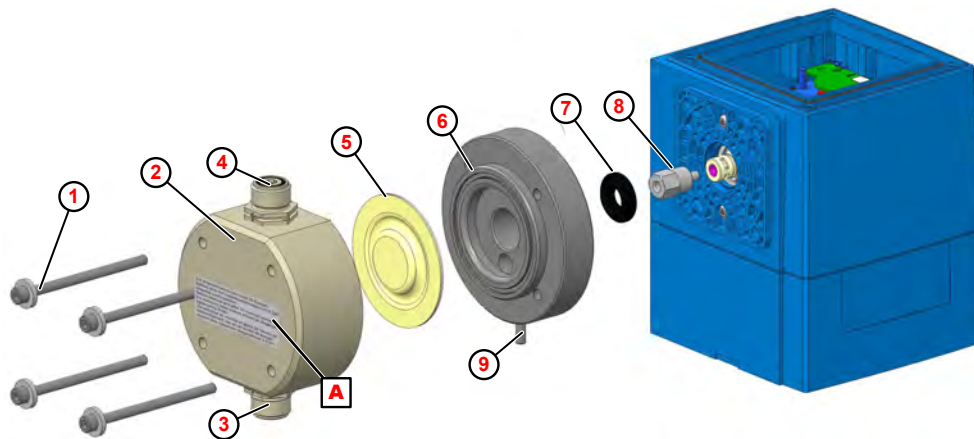

Fig. 104: Replacing the pump head, diaphragm and protective diaphragm
1. ➤ Unscrew and remove the suction and pressure valve (Fig. 104 , ③ and ④).
2. ➤ Loosen and remove the pump head screws ① .
3. ➤ Remove pump head ② .
4. ➤ Unscrew and remove the diaphragm ⑤ .
5. ➤ Remove the intermediate plate ⑥
6. ➤ Remove the protective diaphragm ⑦ .
8. ➤ Place the intermediate plate so that the diaphragm rupture outlet ⑨ points downward.